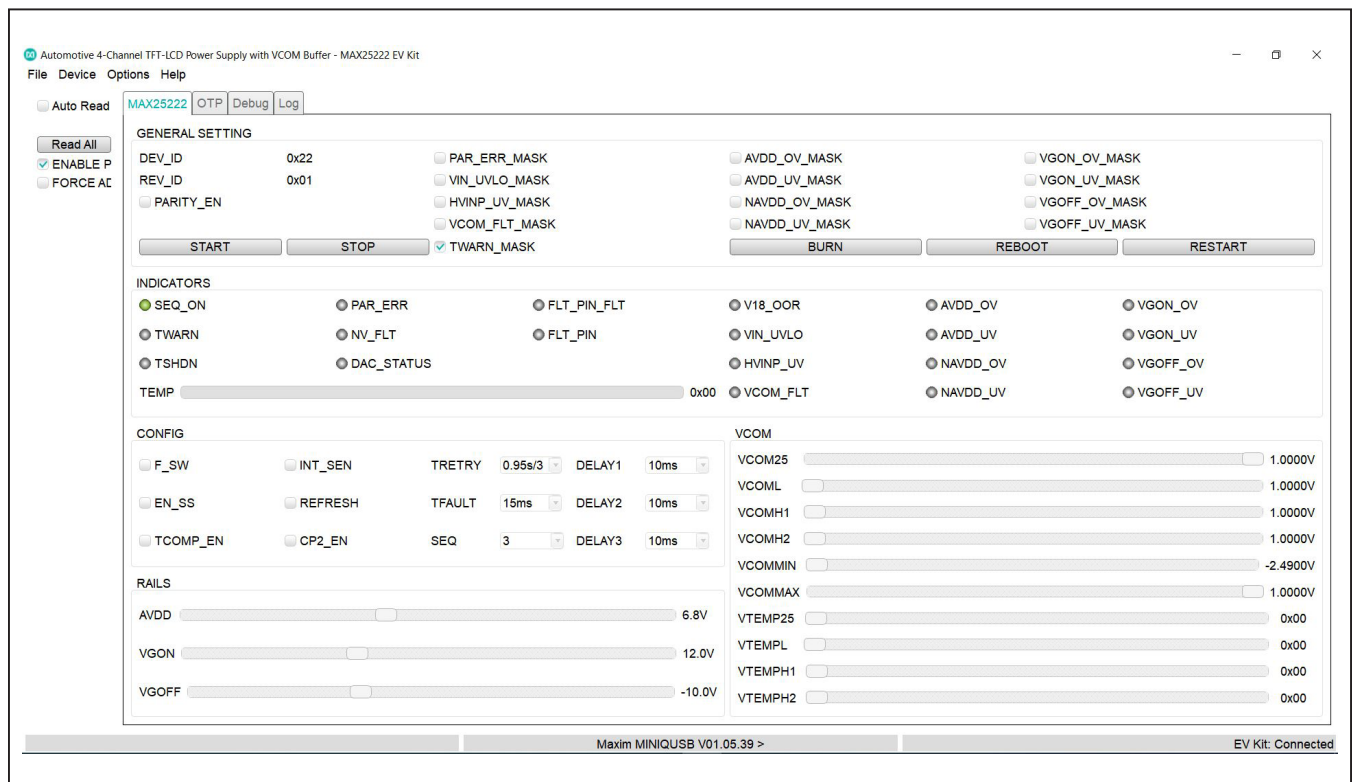

Figure 1. MAX25222 Evaluation Kit Software (GUI)
- From the EV kit software toolbar, select **Device** → **Scan for Address**. The GUI scans the I²C bus for available slave addresses on the bus and selects the first one (in this case, the MAX25222 I²C address with J5 settings: 52H). Press **OK** once the MAX25222 I²C address has been found. Figure 1, is a screen capture of MAX25222 evaluation kit software (GUI).